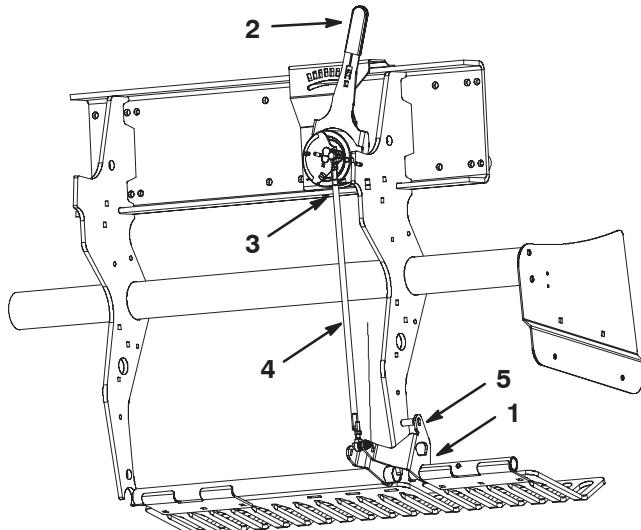

Figure 54
1. Rotate the LH turf guard mounting bracket (Fig. 54) up until a locking pin (5/16 drill rod or capscrew) can be inserted between the bracket and the depth setting tube welded to the frame.
2. Move the ground following lever (Fig. 54) to the "H" setting (deepest).
3. Disconnect the out-board ball switch (Fig. 54) from the wire harness (Head-Low switch).
4. Loosen the jam nuts (LH & RH) on the depth adjustment tie rod (Fig. 54).